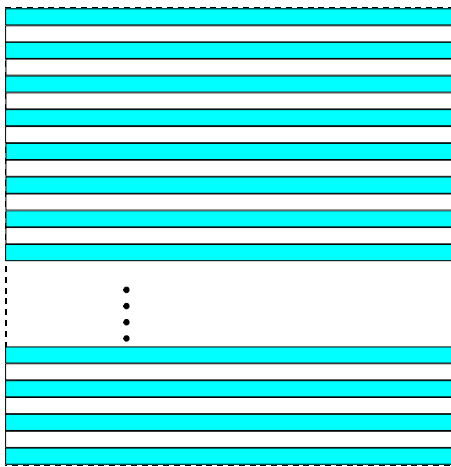

Fig. 104: Decimation of 2 (Mono Cameras)
- 2 for mono cameras: only every second row of the acquired frame will be transmitted out of the camera (Figure 104).